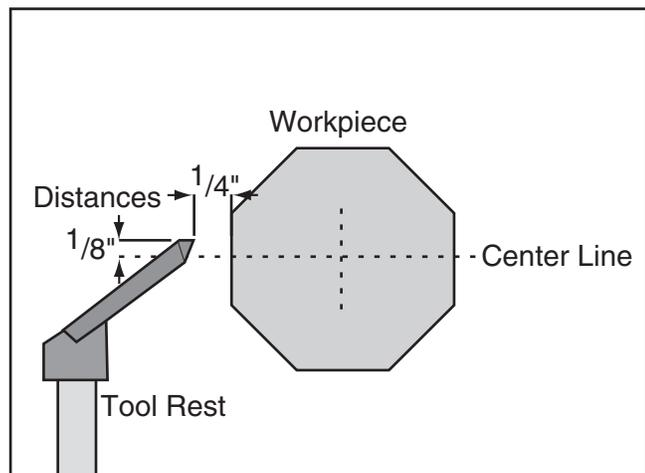

Figure 26. Tool rest position.
- Position the tool rest approximately $\frac{1}{4}$ " away from the workpiece and approximately $\frac{1}{8}$ " above the center line, as shown in **Figure 26**.